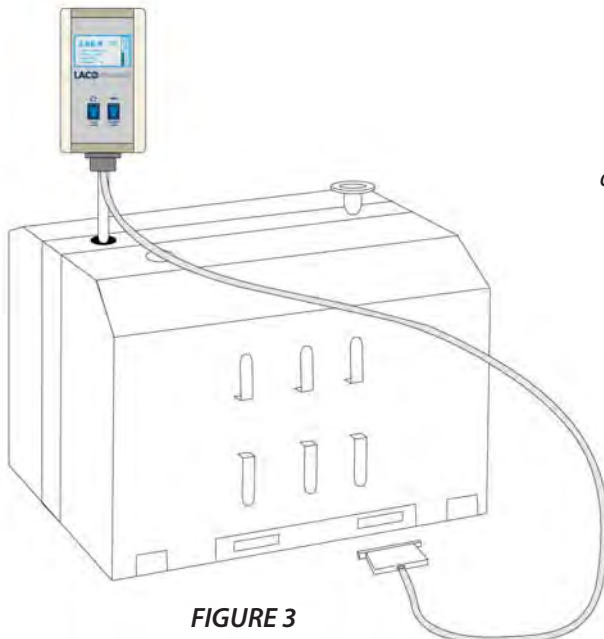

FIGURE 3
3. Insert the pedestal mounting tube (included) into the leak detector (Figure 3). It may be necessary to tighten the mounting tube compression nut inside the leak detector enclosure if the tube is too loose.